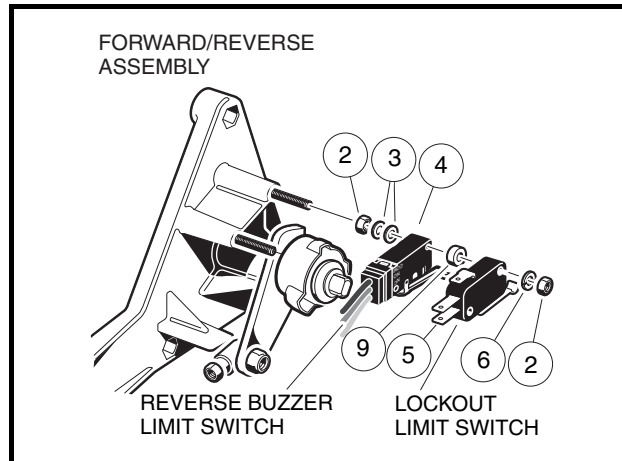

Figure 12-34 Lockout Cam and Reverse Buzzer Limit Switches
3. Disconnect the wires from the lockout cam limit switch (5) located on the back of the Forward/Reverse shifter assembly (**Figure 12-34, Page 12-28**).
4. Remove two nuts (2) and washers (6) from the lockout cam limit switch (5) and slide the lockout cam limit switch off of the screws.
1. Install the limit switch (5) with washers (6) and nuts (2) and tighten to 5 in-lb (0.6 N·m) (**Figure 12-34, Page 12-28**). Place the Forward/Reverse handle in REVERSE to make sure that both switches actuate. **See following CAUTION.**
3. Disconnect the wires from the reverse buzzer limit switch (4) located on the back of the Forward/Reverse assembly (**Figure 12-34, Page 12-28**).
4. Remove the nuts (2) and washers (6) from the lockout cam limit switch (5) and slide the lockout cam limit switch off of the screws. Do not disconnect the wires.
5. Remove the spacers (9) from the reverse buzzer limit switch (4) and slide the reverse buzzer limit switch off the screws.
4. Connect the orange wire to the black wire (COM) terminal and the red/white wire to the blue wire, normally open (NO) terminal of the reverse buzzer limit switch (4) (**Figure 12-34, Page 12-28**).